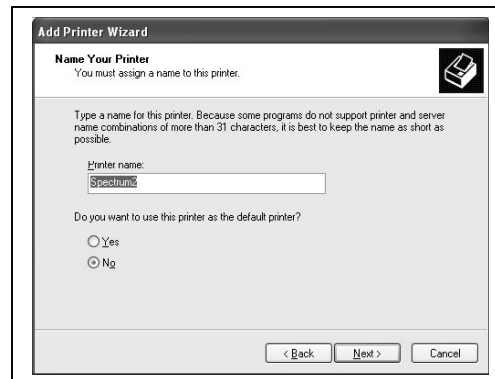

fig 8
8. In the “Name your Printer” window, leave the printer as the default name, and select the printer to be the default printer (fig 8) and click Next.